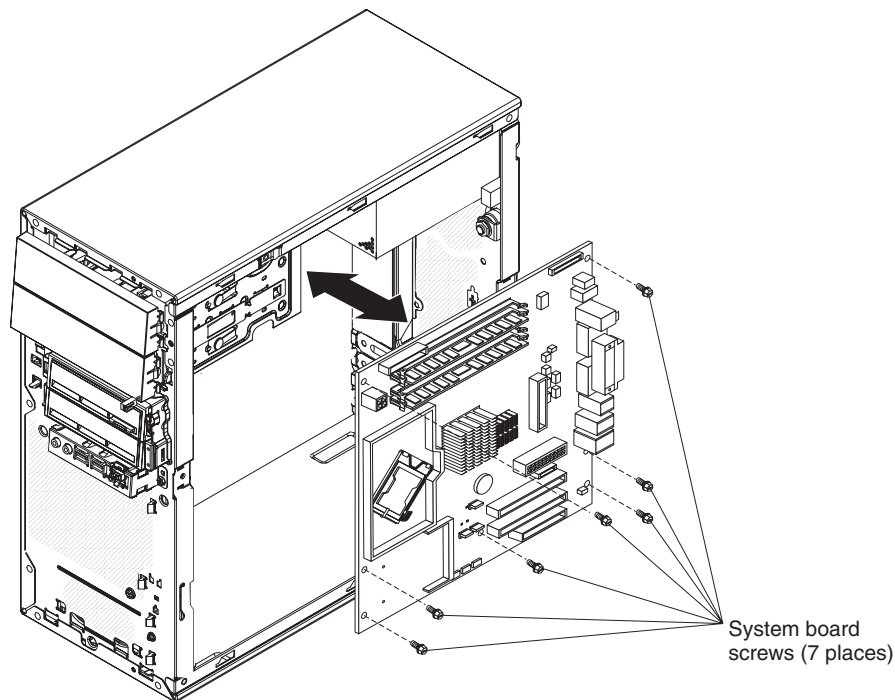

Figure 52. Installing the system board
2. Install the seven screws that secure the system board (see Figure 52).